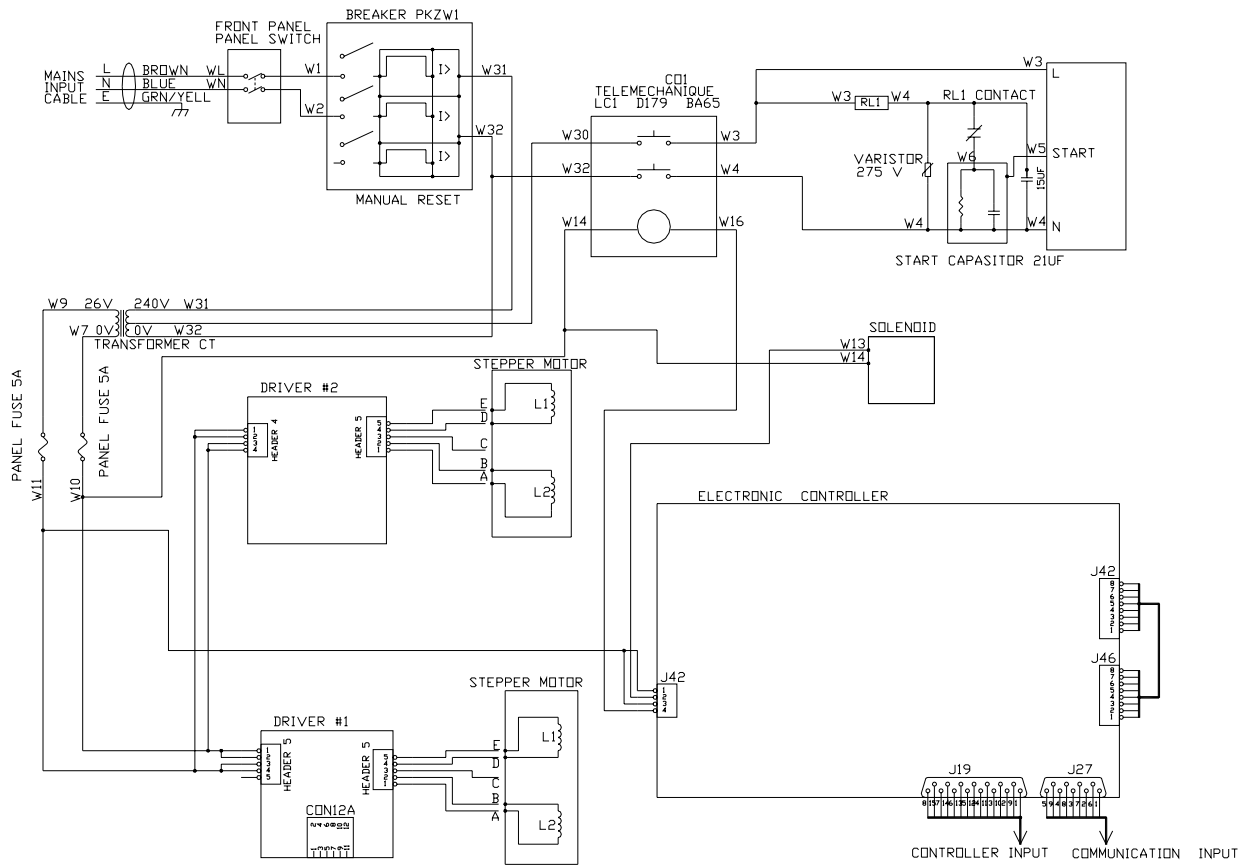

Figure 16 - Cryocontroller electrical control circuit.
1. Take the two spanners and place them on the female self-sealing coupling as shown in figure 16.